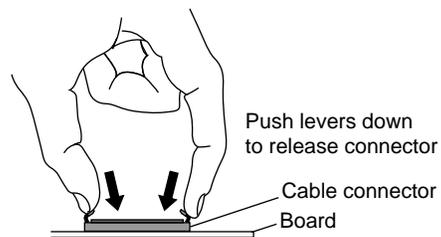
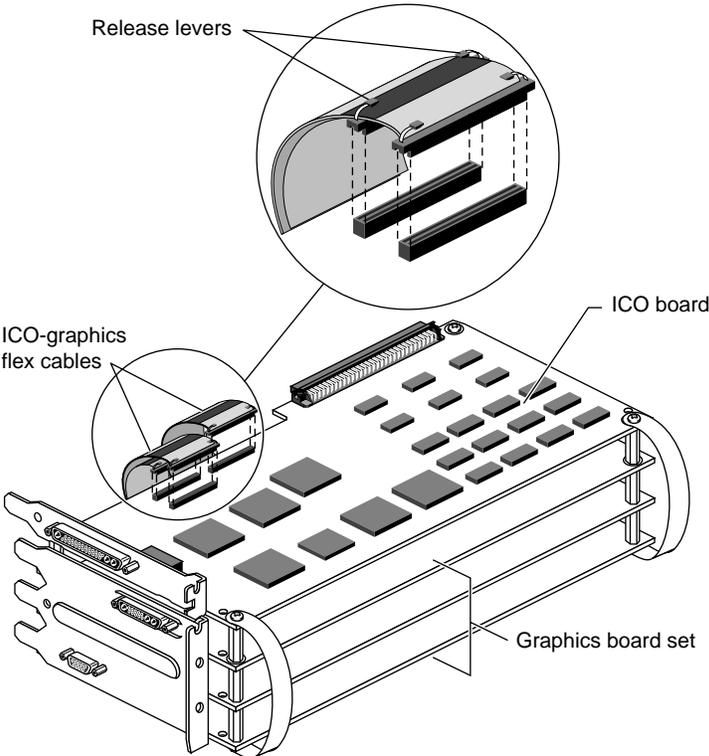

Figure 1-29 Pressing the Release Levers on the Flex Connectors
Figure 1-30 Removing Standoff and Pull Strap Screws
2. Remove the flex cables from the top of the ICO board. See Figure 1-29 and Figure 1-30.